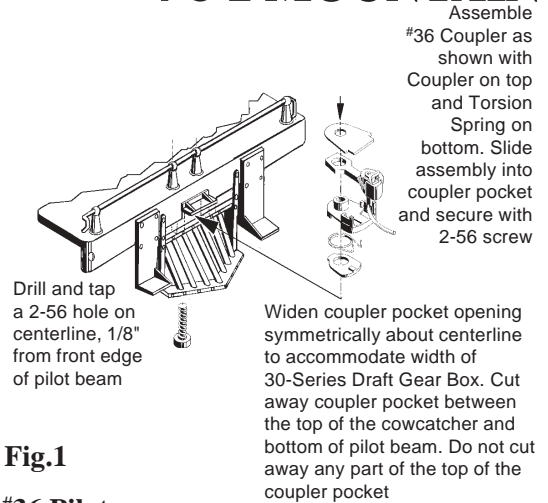

Fig.1
2. Widen coupler pocket opening symmetrically about centerline to accommodate width of 30-Series Draft Gear Box. Cut away coupler pocket between the top of the cowcatcher and bottom of pilot beam. Do not cut away any part of the top of the coupler pocket opening. See Fig.1.